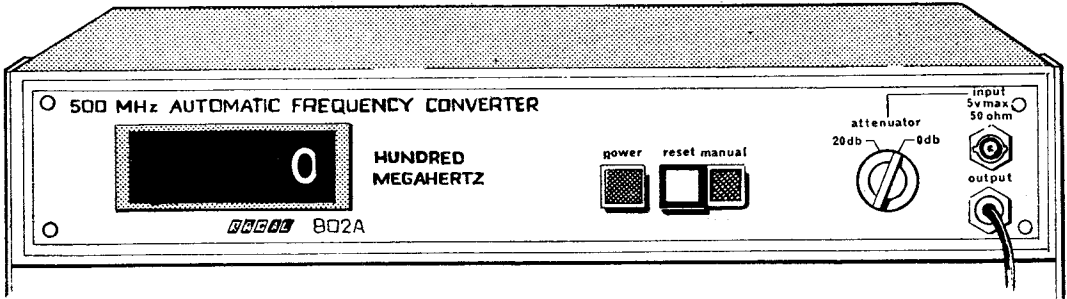

Fig. 9. Converter (Racal 802)
25. Converter (Racal 802). This converter, illustrated in figure 9, extends the range of the counter up to 500MHz. It operates as a heterodyne frequency changer and has automatic selection of the harmonic to be used. This harmonic is displayed as a numeral (in 100MHz) by a cold-cathode tube on the front of the instrument. In use the converter is fed with a 1MHz frequency standard obtained from the counter 801. The signal input will accept signals from 0.1V to 5V rms and has an impedance of 50Ω to match normal radio frequency lines. The output supplied to the counter is about 50mV rms and the counter input switch should therefore be used in the 0.05V position. Accuracy of the instrument is the same as that of the counter, but the measurement takes about half a second longer to enable the converter to select and lock on to the correct harmonic.